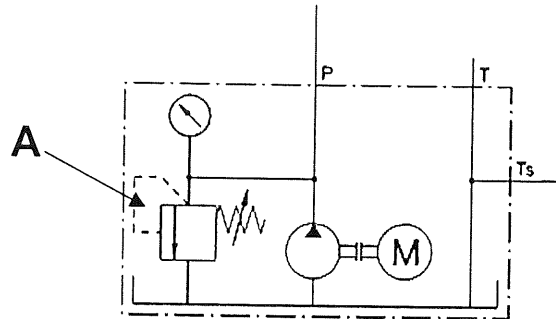

Figure 5
f) Figure 5 shows the symbol of hydraulic power pack,